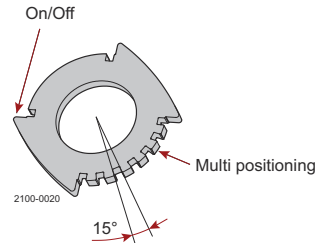

Figure 3. Positioning cap
- Lockable Multiposition Handle. Padlock can be mounted as shown in fig. 3. **Note!** Padlock is not delivered